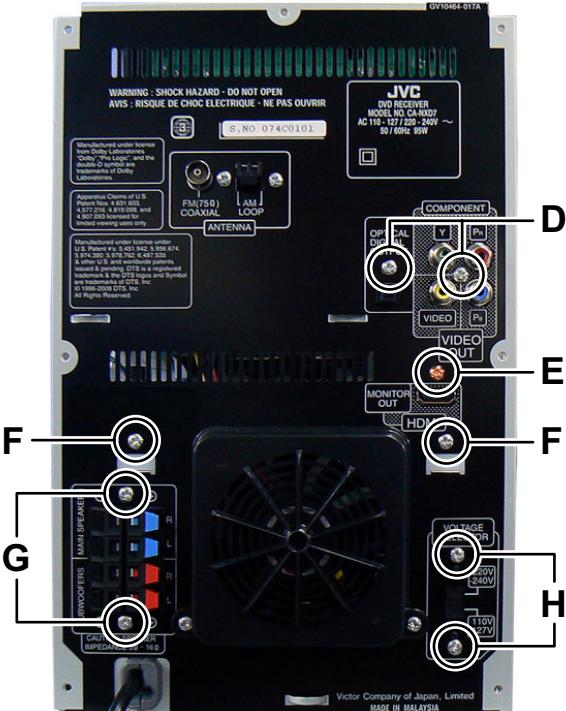

Fig.5
- (3) Remove the two screws **D** attaching the Main board. (See Fig.5)
- (4) Remove the one screw **E** attaching the DVD board. (See Fig.5)
- (5) Remove the two screws **F** attaching the Mecha chassis. (See Fig.5)
- (6) Remove the two screws **G** attaching the Amp board. (See Fig.5)
- (7) Remove the two screws **H** attaching the Voltage selector board. (See Fig.5)